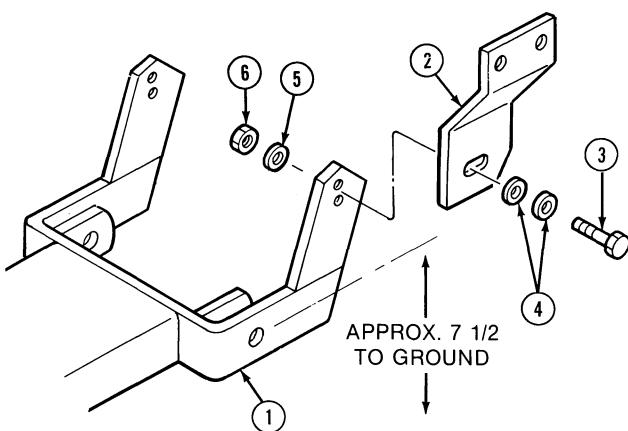

Figure 4
3. Attach the rear frame, (1), to the front mounting bracket, (2), using two 1/2" NF x 1-3/4" hex hd. bolts, (3), lockwashers, (5), nuts, (6), and four flat washers, (4), as shown in Figure 4. Do not tighten the bolts at this time. Use two flat washers over each slotted hole, as shown.